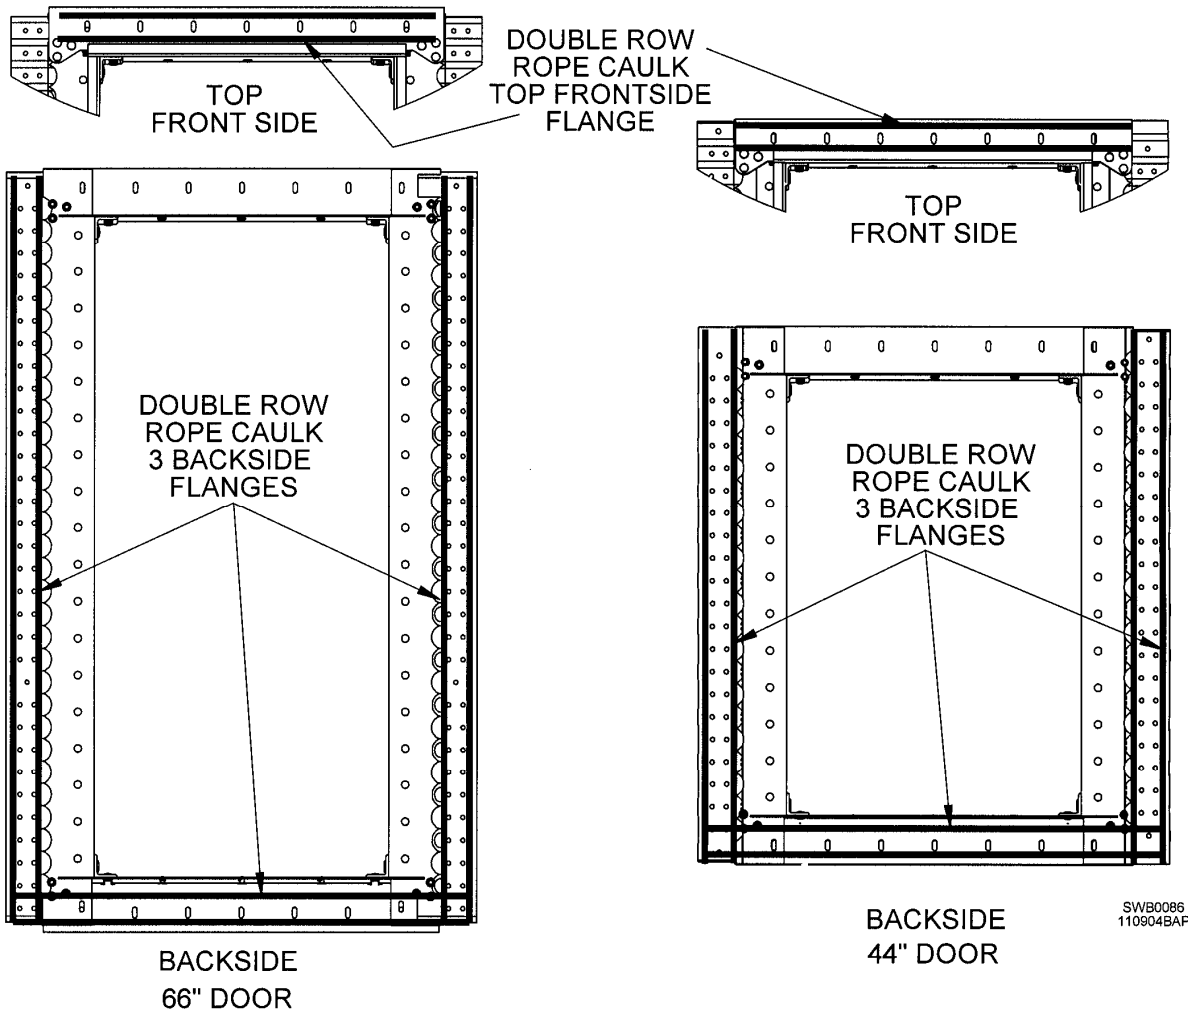

Fig. 1
3. Apply double row of rope caulk to frame flanges. Top flange will receive caulk on outside of flange. Side and bottom flanges will receive caulk on inside, or backside, of flange. See Fig. 1.